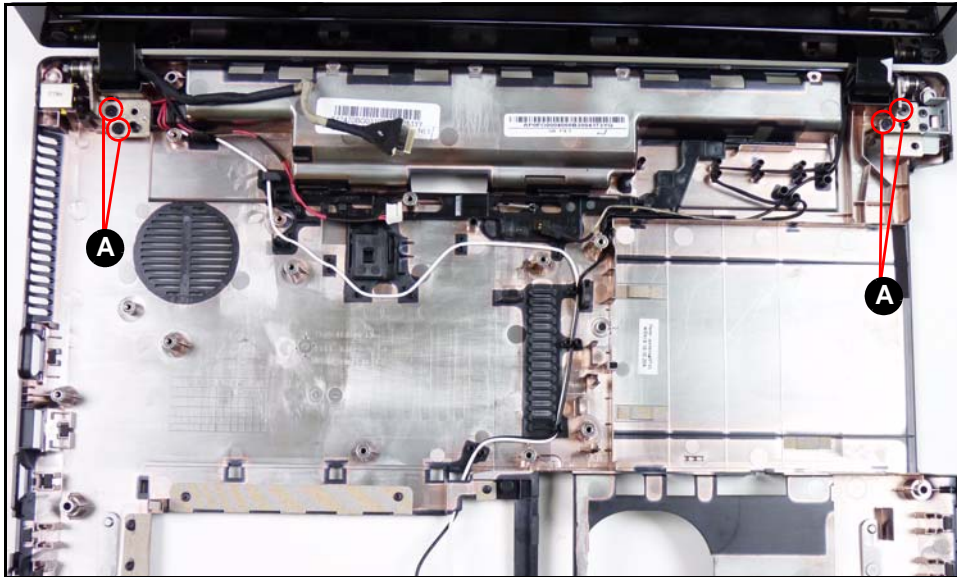

Figure 3-36. LCD Hinge Screws
1. Remove four (4) screws (A) from LCD hinges. (Figure 3-36)
2. Install and secure four (4) screws (A). (Figure 3-36)